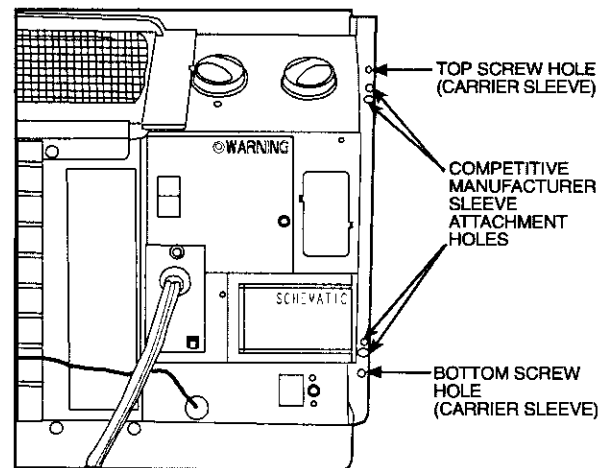

FIGURE 13 — CHASSIS MOUNTING
7. Screw chassis to wall sleeve with four 1 $\frac{3}{4}$ -in. long screws taped to the control box. Screw holes are located on both sides of the mounting angles of the chassis. For Carrier wall sleeves, use the top-most and bottom-most screw holes. For competitive wall sleeves, line up the correct attachment holes on the chassis with the holes in the sleeves. See Figure 13.